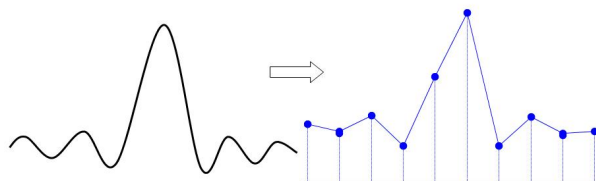

Figure 10-1
- ① **Waveform Distortion:** Due to low sampling rate, the details of the waveform might be missing, the sampling waveform might be different than the actual signal. As shown in Figure 10-1.